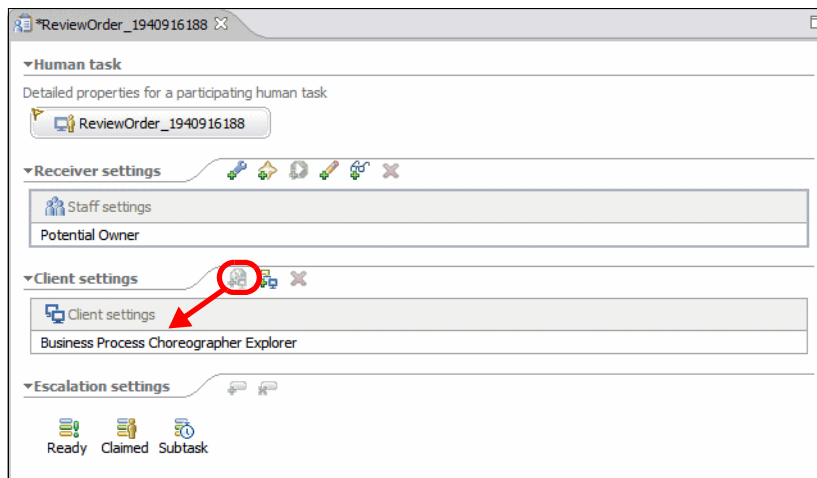

Figure 10-30 Human tasks configuration
- ▶ For Client settings, click the *BPC Explorer* icon  to set up Business Process Choreographer Explorer for human tasks processing (Figure 10-30). Notice the Client Settings in the Properties view. We will defined tailored JSPs for human tasks later in “Implementing customized JSPs for the BPC Explorer” on page 257.